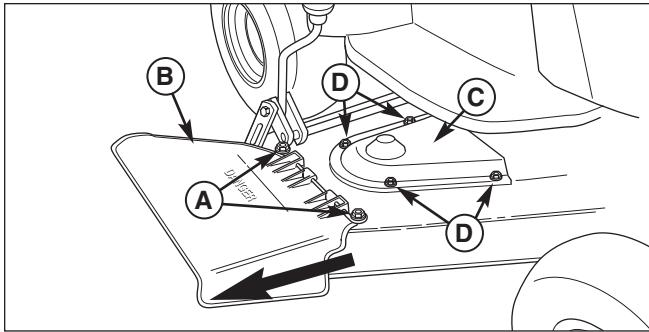

Figure 2. Remove Deflector and Arbor Cover
1. Remove the mower deck from the unit (see Operator's Manual for Mower Deck Removal). Remove and discard the carriage bolts, washers, lockwashers, nuts (A, Figure 2) and deflector rod. Retain the deflector.
2. Remove and discard the taptite screws (D) and arbor cover (C).